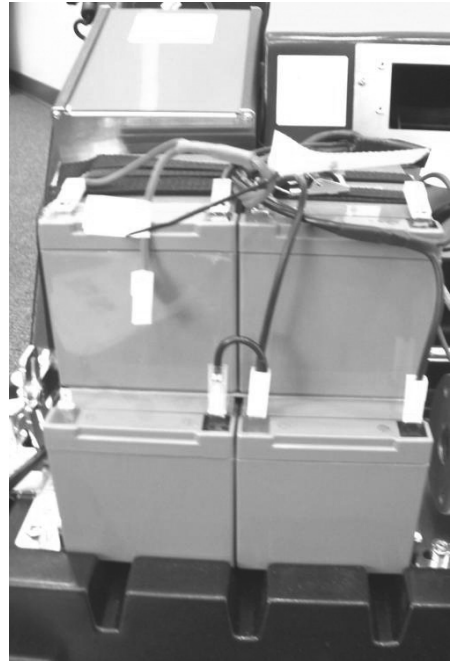

FIG. 2
4. Fix the disassembled cable lug (Fig. 2) to the corresponding battery contact. It is possible that sparking will occur when connecting the batteries!